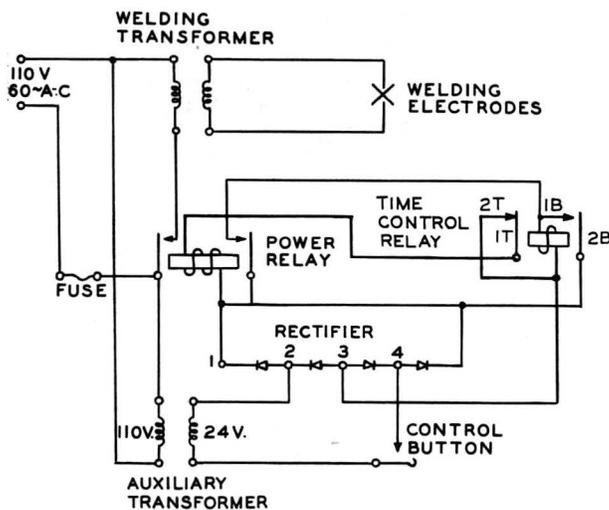

Fig. 2 – Contact Welder Circuit
2.02 These sets are similar except for the welding plier connections noted in 2.01. The circuit of the current-supply sets is shown in Fig. 2. In addition to the welding transformer, this circuit contains an auxiliary transformer and rectifier which provide direct current at the proper voltage for operating the power and time-control relays. Both current-supply sets are equipped with a cord for connection to a 105/125-volt, 50/60-cycle ac power supply. They also have a second cord with a control button which, when depressed, causes the circuit to function and apply the proper welding current through the electrodes of the welding pliers for a pre-determined interval. A 10-ampere plug-type fuse is connected in the circuit to the primary winding of the transformer. Access to this fuse is obtained by removing the current-supply set from its carrying case.
2.03 Referring to Fig. 2, when the power cord is connected to the proper supply and the control button is depressed, the circuit is closed through the auxiliary transformer and rectifier to operate the power relay. Operation of this relay closes the circuit to the welding transformer which supplies a high current at low voltage to weld the contact to the spring. The operation of the power relay also closes the circuit to operate the time control (U type) re-